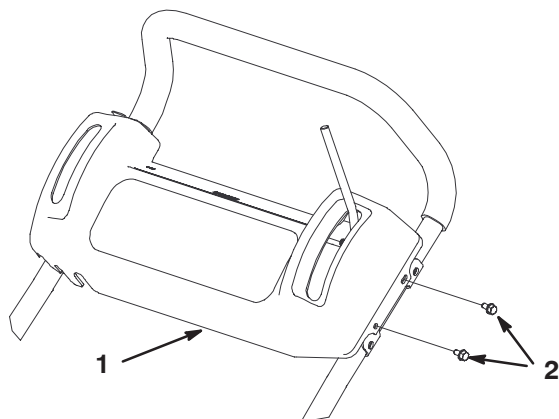

Figure 1
1. Remove (2) screws securing each end of console panel to handle bar (Fig. 1). Slide console up control levers to gain access to left control bracket.
2. Secure each end of console panel to handle bar with (2) screws previously removed (Fig. 1).